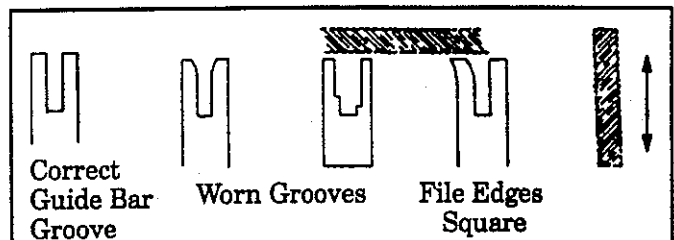

Figure 30
- Remove burrs by filing the side edges of the guide bar grooves square with a flat file. Figure 30.
- Square the edges of an uneven rail top by filing with a flat file. Figure 30.